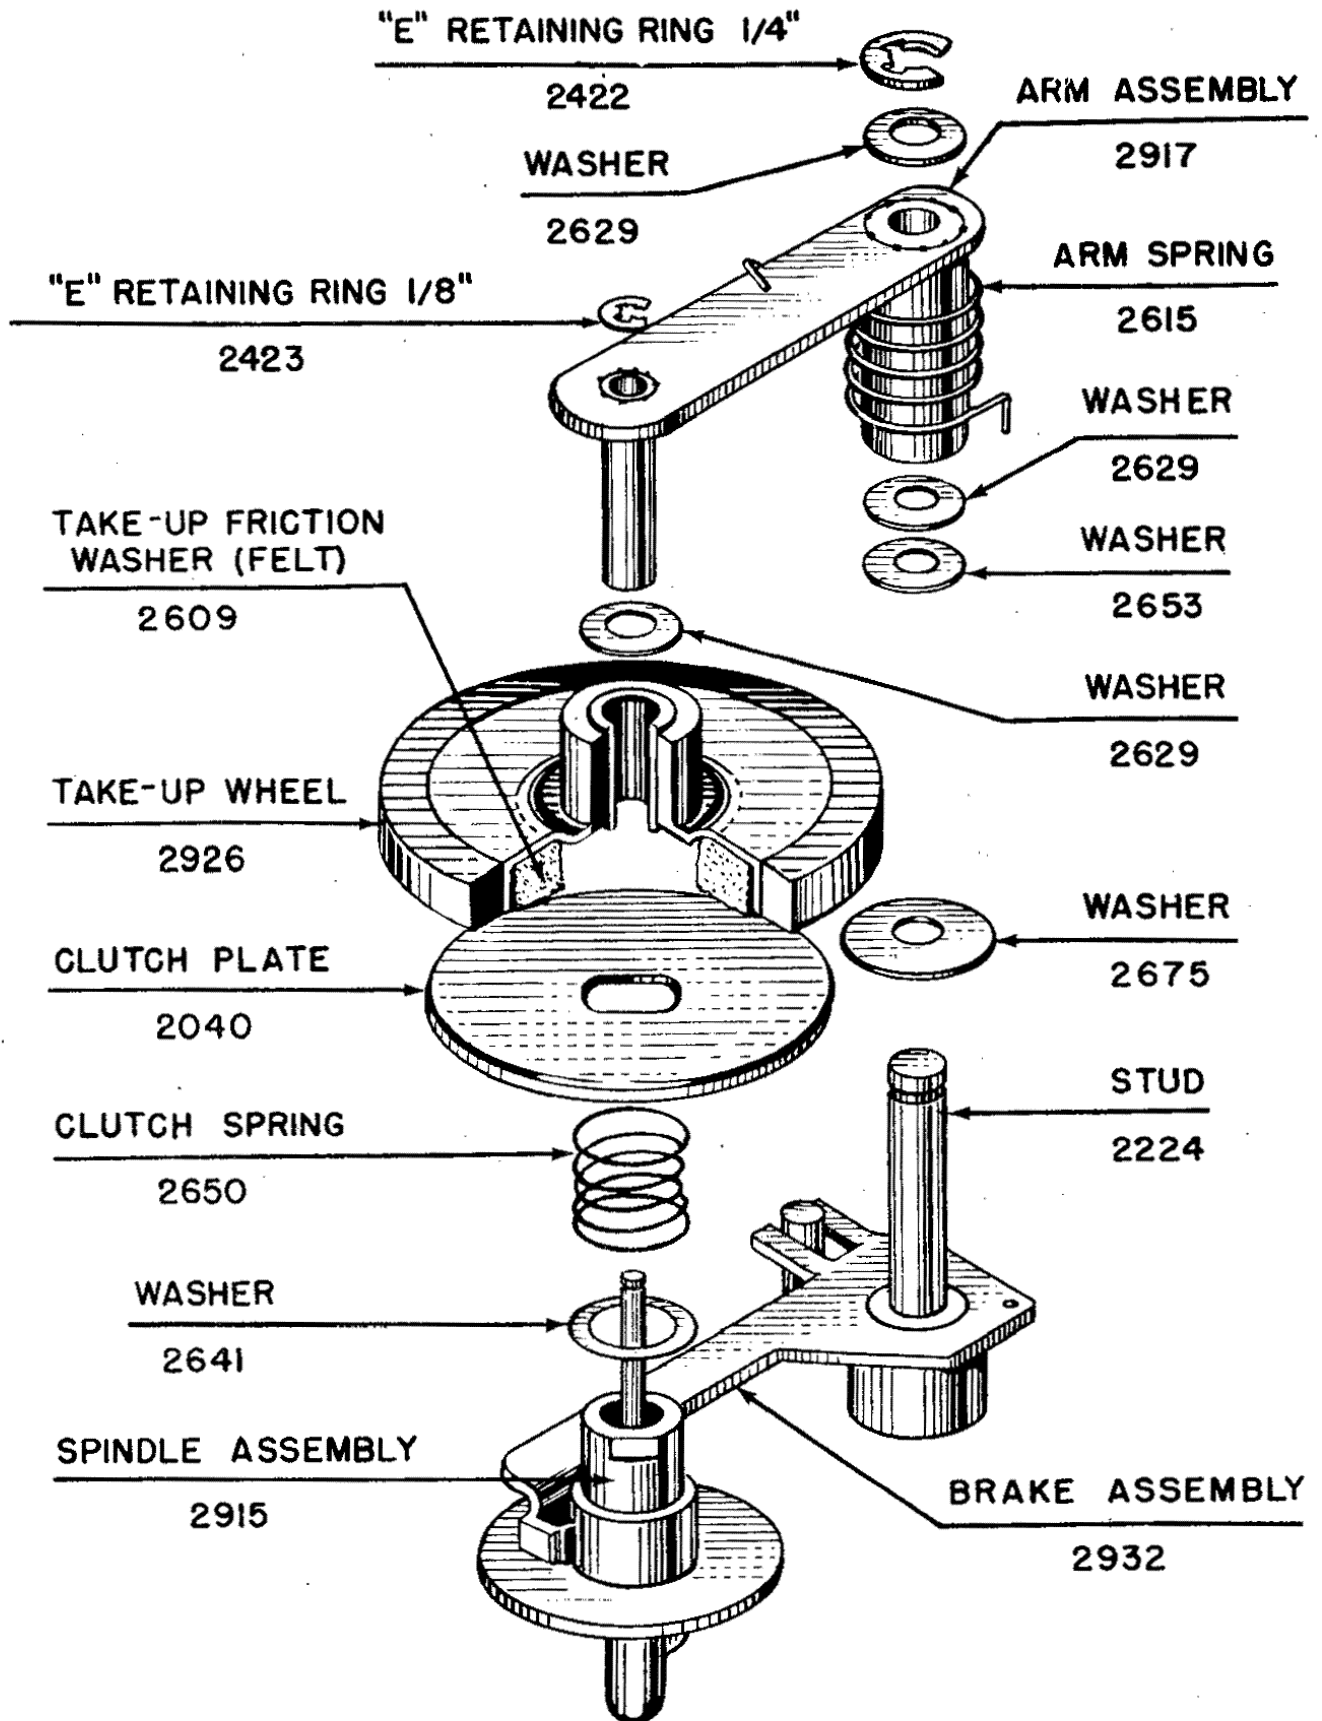

FIG. 8 - Exploded View, Takeup Spindle Assembly.
(1) Disassembly: (See Fig. 8.) Disconnect ends of arm spring (#2615). Remove "E" retaining rings (#2422 and #2423). Lift assemblies from stud (#2224) and spindle assembly (#2915).
(2) Inspection: Inspect take-up wheel (#2926) rubber surface, felt pad, and clutch plate (#2040) for wear. Check clutch spring (#2650) for correct free length (21/32 inch to 23/32 inch).
(3) Repair: Replace worn parts. Clean takeup pulley and clutch plate with carbon tetrachloride.
(4) Reassembly: Reassemble parts in specified relation (see Fig. 8). Be sure brake assembly (#2932) moves freely about stud (#2224). Clip arm spring (#2615) to arm assembly (#2917) and brake assembly (#2932).